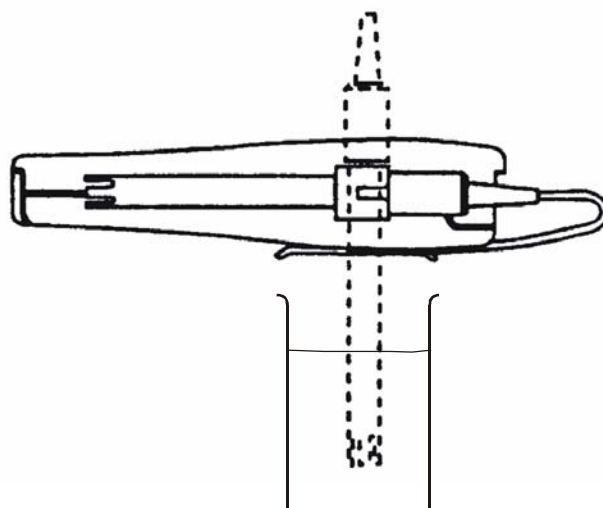

Figure 9: Different positions for one hand operation
3. You can attach the electrode holder in different positions (Figure 9).